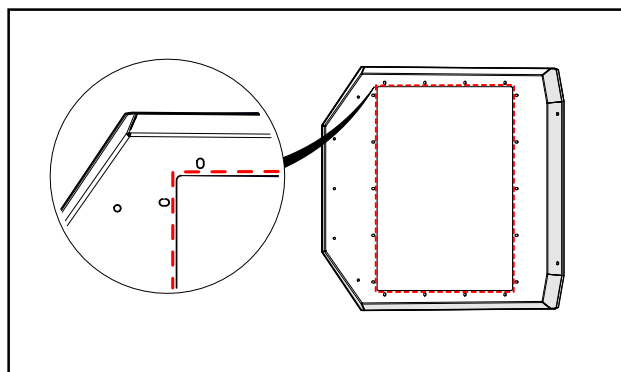

Fig. 2.2 (Apply Silicone)
- 2.2 Apply a bead of silicone along the perimeter of the roof (the top, exterior surface). The bead shall be inside of the fastener holes as illustrated with the dashed lines in the enlarged view of Figure 2.2.